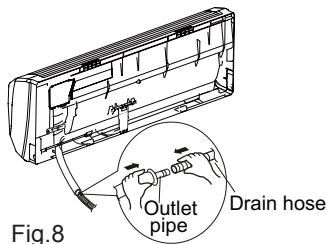

Fig. 8
(1) Connect the drain hose to the outlet pipe of indoor unit. (As show in Fig.8)